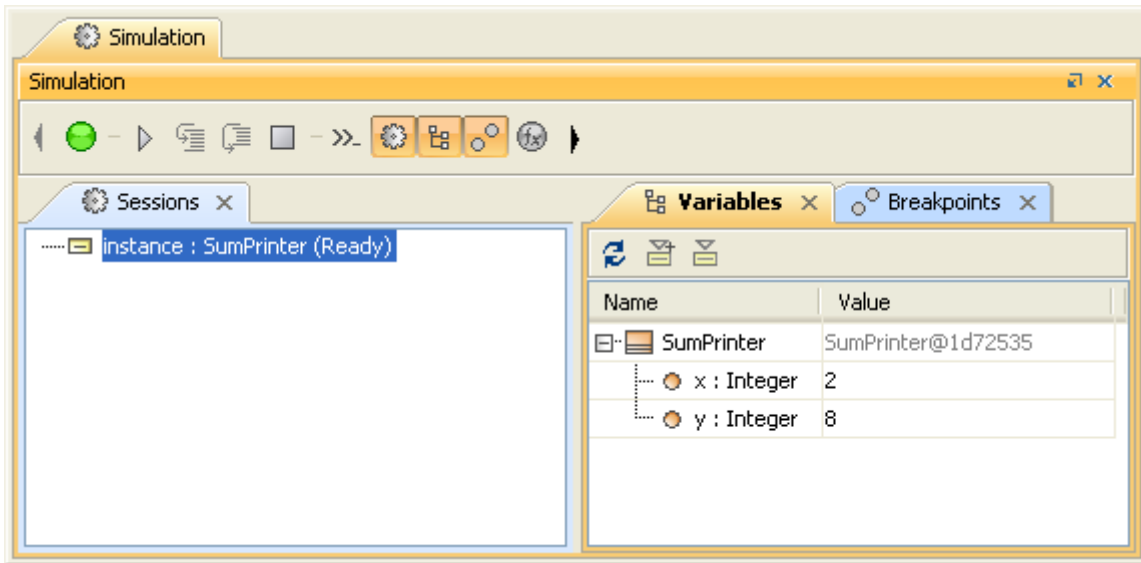
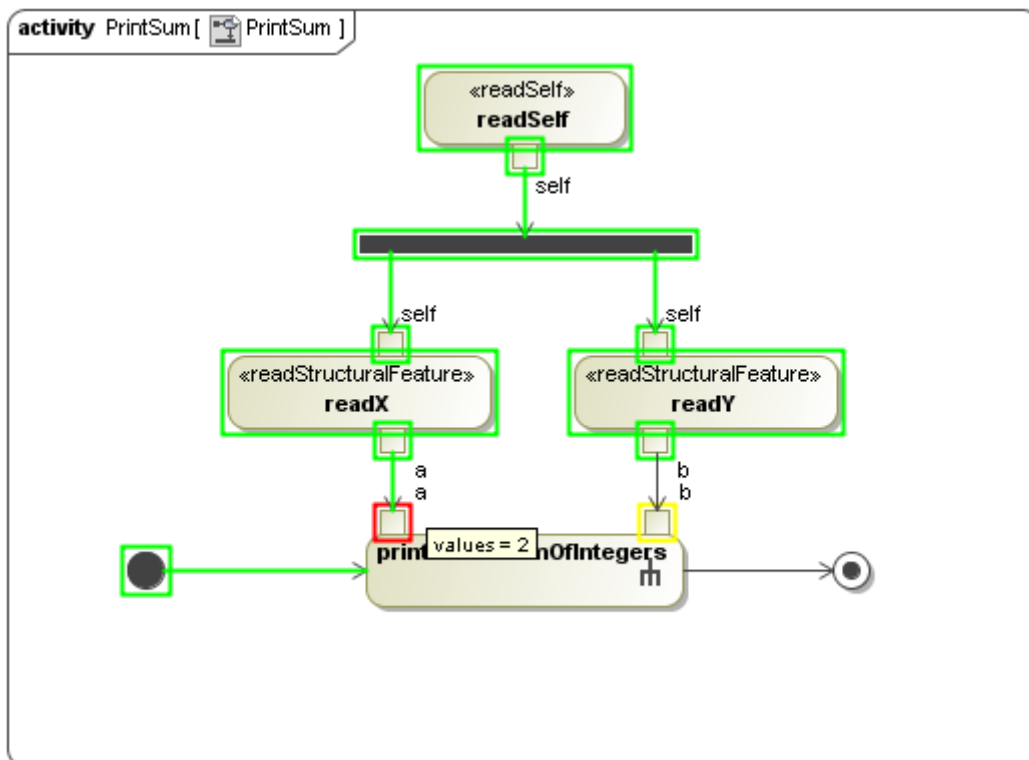

Figure 81 -- Simulation Session in the Sessions Pane of Simulation Window
Figure 82 -- The Execution is Suspended when Pin a is Activated
3. A new simulation session will be created and displayed in the **Sessions Pane** of the **Simulation Window** (Figure 81). The symbol of elements that have breakpoints attached will be highlighted in yellow (default) (Figure 82).